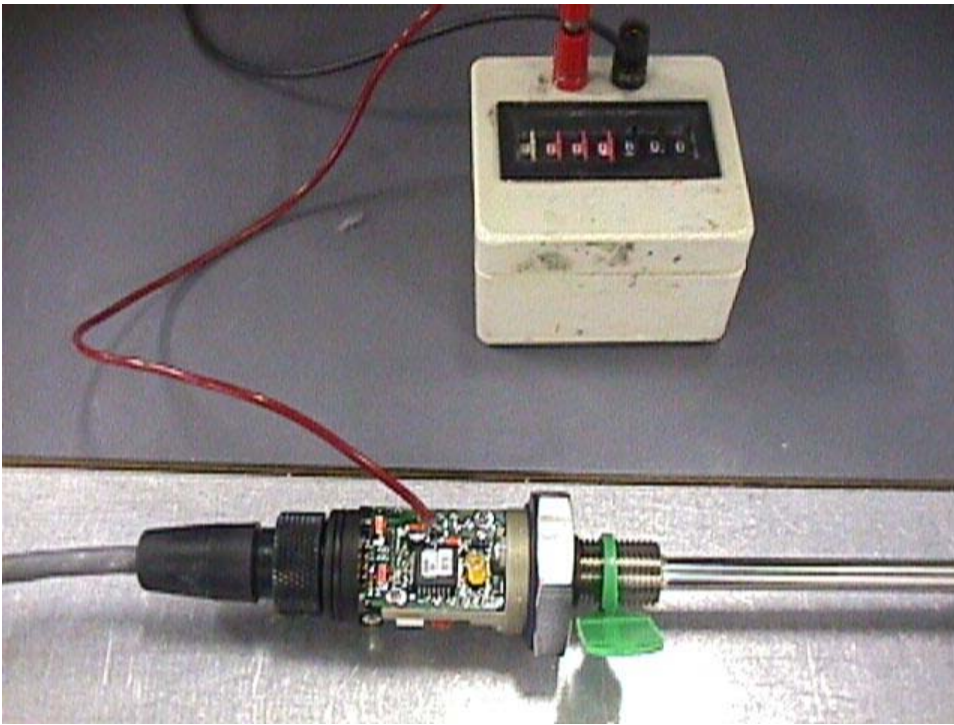

Fig 1
- 2) Connect the Decade box leads to the gain resistor hole on the Waveguide/Driver Amplifier PCB. Reference Figure 1.